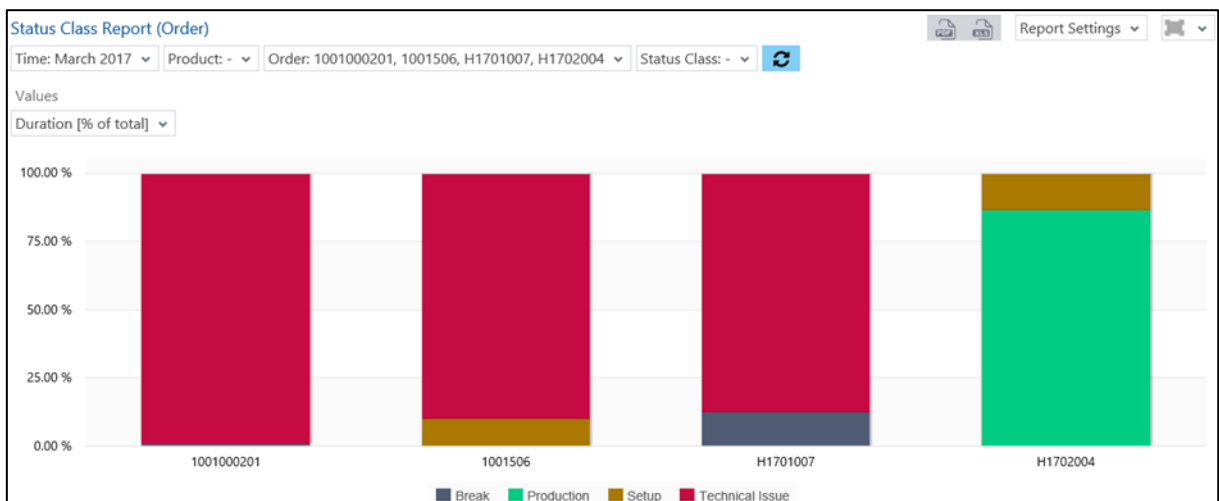

Fig. 79: Operating state class report (order) as column chart
- Operating state class report (order) as column chart (Fig. 79):